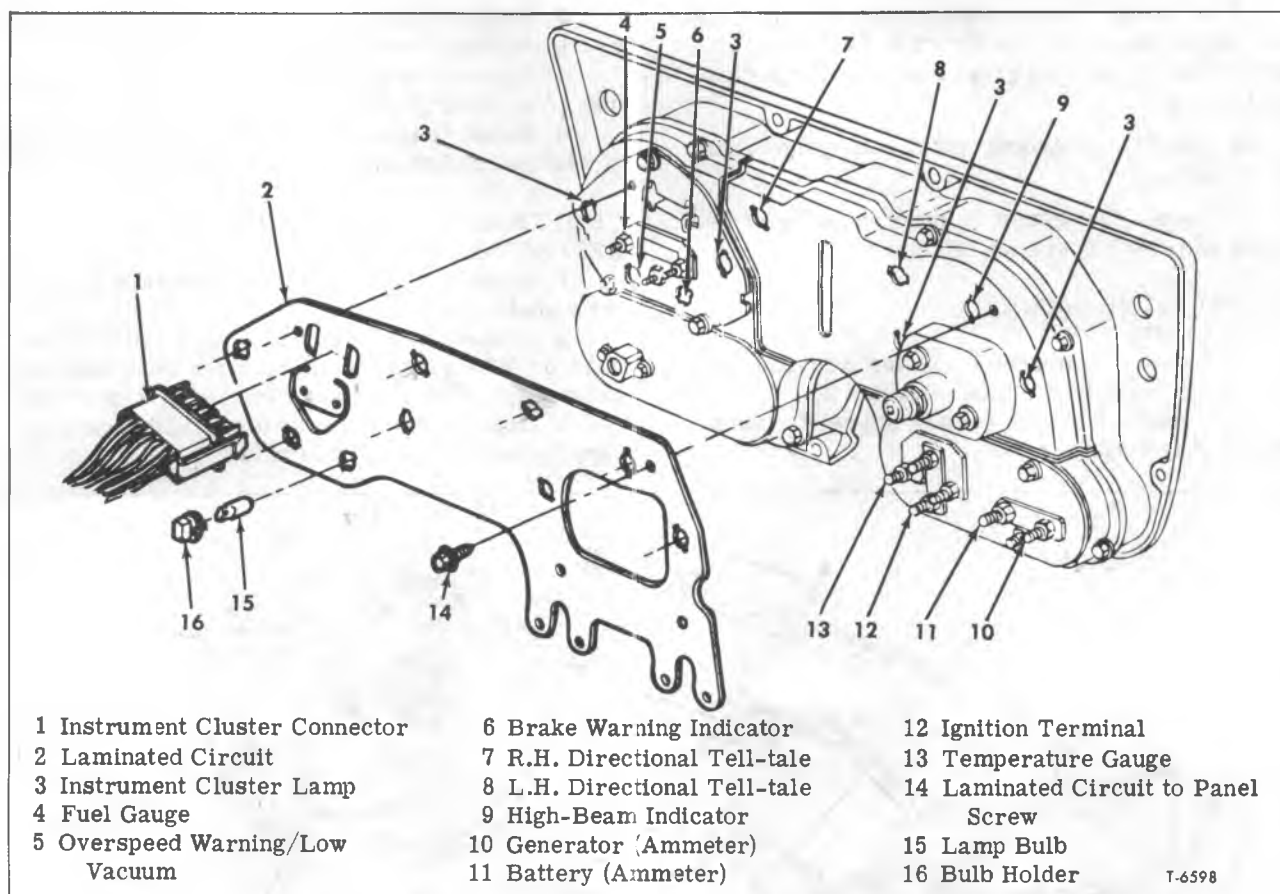

Figure 8—Instrument Cluster Connections (Conventional Cab Models) (Typical)
1. With instrument cluster removed from vehicle, remove all lamp assemblies from the cluster (fig. 8).
### TEMPERATURE GAUGE REPLACEMENT (Fig. 8)
#### OIL AND/OR AIR PRESSURE GAUGE REPLACEMENT (Fig. 8 or 9)